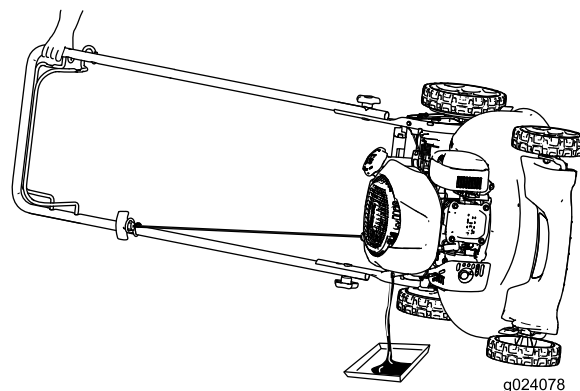

Figure 19
2. Tip the machine onto its side, with the dipstick down, to drain the used oil out through the oil-fill tube (Figure 19).